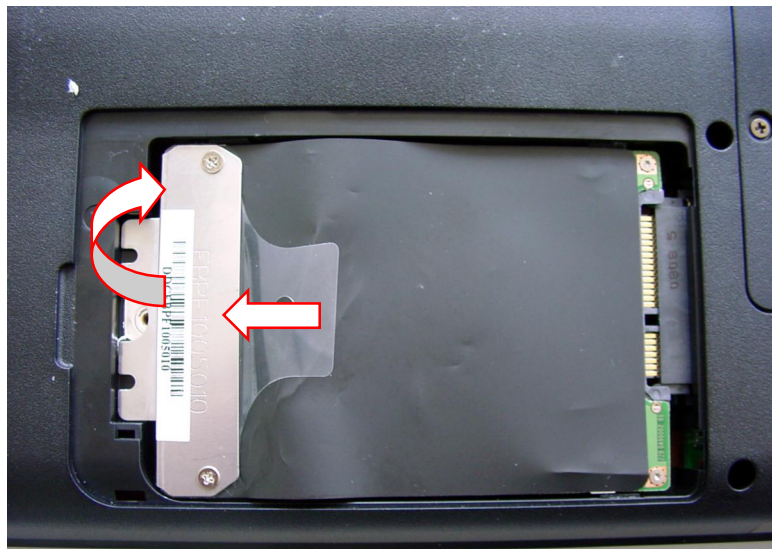

Fig. 4 Disconnecting and removing hard disk drive.
5. Take the drive out of its compartment as shown in Fig. 4.